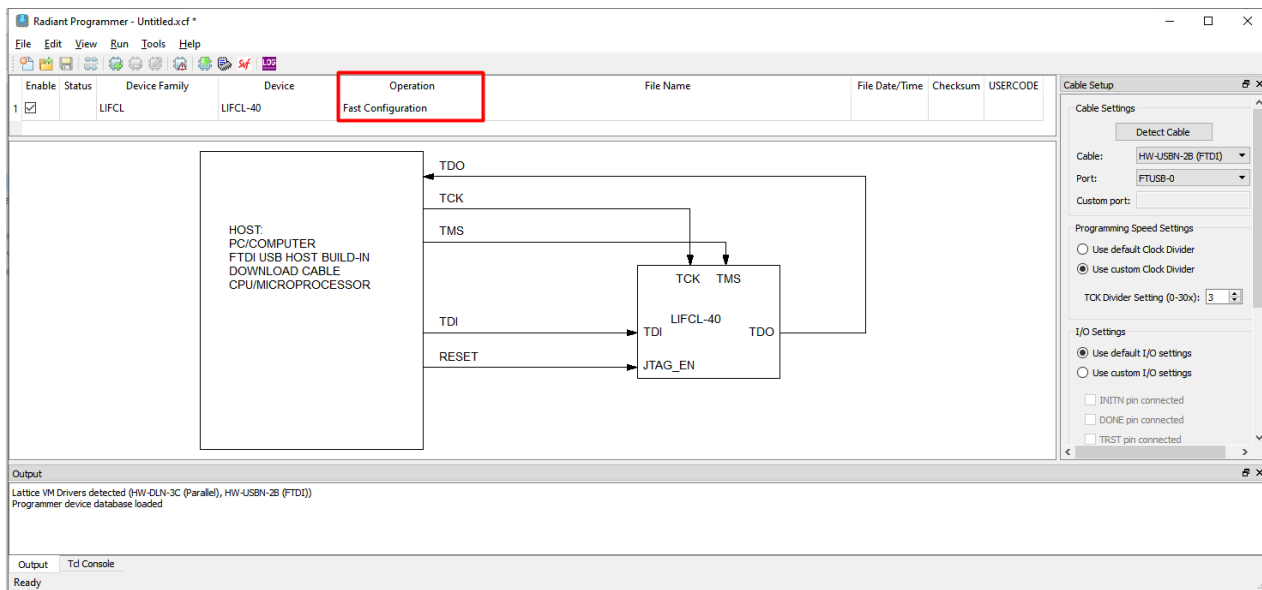

Figure 5.2. Radiant Programmer Main Window
6. A new window pops up as Figure 5.2 shows. Double-click Fast Configuration from the Operation column.